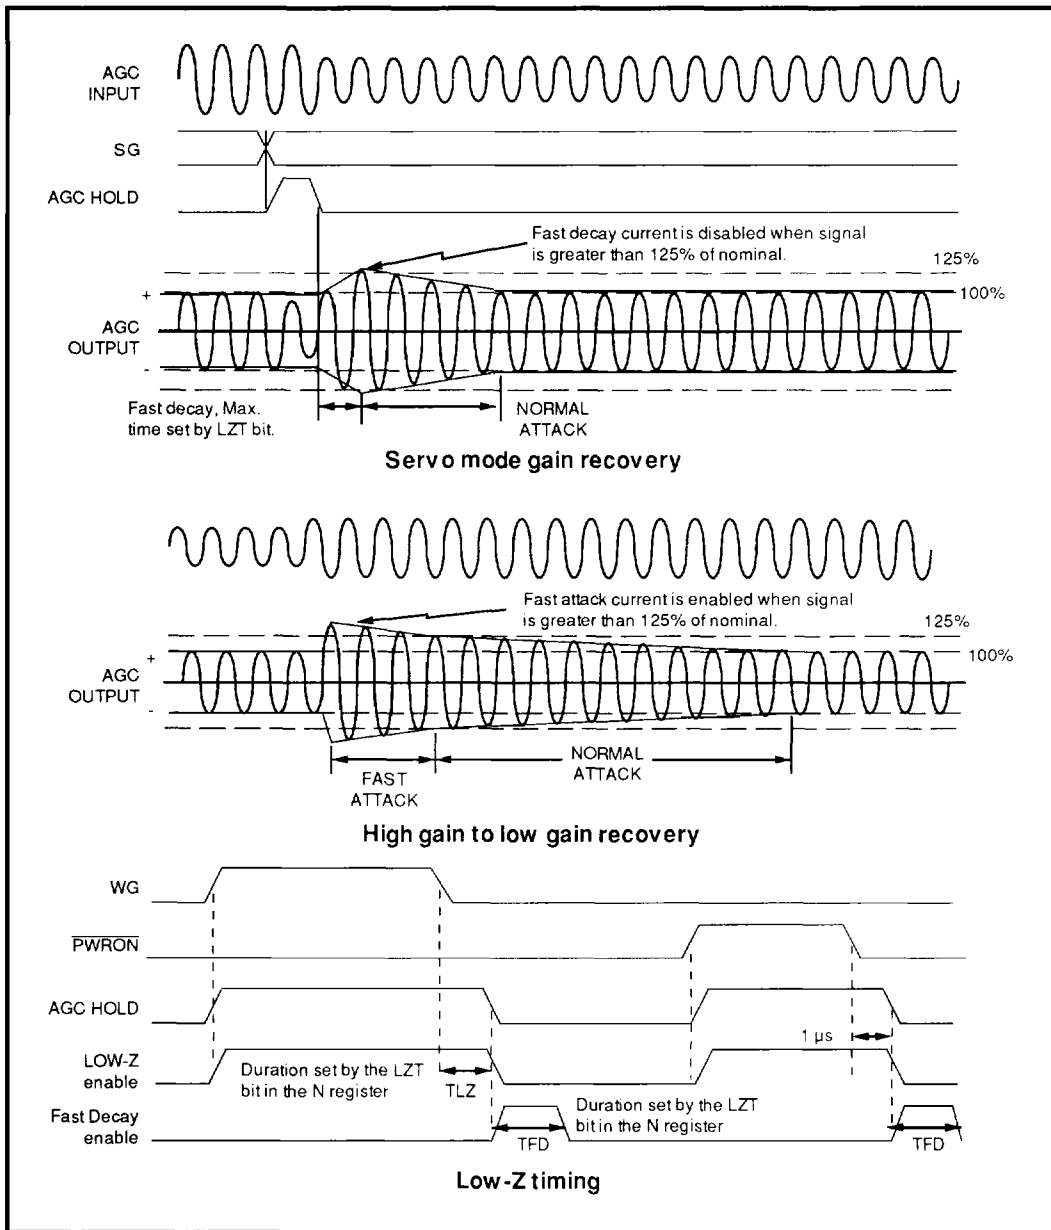

FIGURE 2: AGC Timing Diagrams
When write gate (WG) is driven high, the dual rate charge pump is disabled causing the AGC amplifier gain to be held constant. The input impedance of both the AGC amplifier and the programmable filter is reduced. When the WG pin transitions from high to low, the Low-Z mode is activated. In this mode, the input impedance at both the AGC amplifier and the programmable filter remain low to allow for quick recovery of the AC coupling capacitors. Directly following the Low-Z mode is the fast decay mode which allows rapid acquisition of the proper AGC level. In fast decay mode, an internal FET is switched on to drive a high current into the BYP pin. The current remains active until the signal at DP/DN is above 125% of the nominal amplitude, or until an internal timer expires. After the fast decay current is disabled, the normal AGC sequence is enabled. The duration of both the Low-Z and fast decay modes can be set to either 1  $\mu$ s or 2  $\mu$ s by programming bit D7 in the N Counter register. A hold/fast decay sequence is also initiated on the edges of servo gate (SG). For the servo sequence the Hold period is nominally 400 ns, during which time the AGC is held to allow for filter settling. The fast decay current is enabled at the end of the Hold period. When the pulse detector is powered-down,  $V_{BYP}$  will be held constant subject to leakage currents only. Upon power-up, the Low-Z/fast decay sequence is executed to rapidly recover from any transients or drift which may have occurred on the BYP hold capacitor, refer to Figure 2.